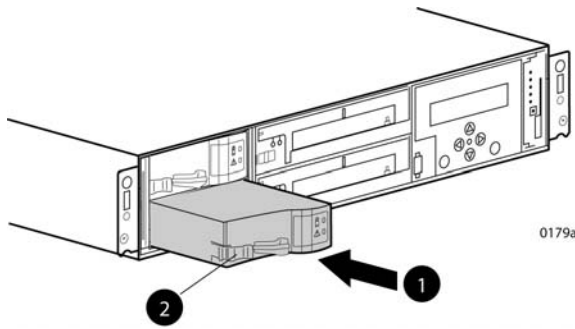

Figure 40 Installing a battery
- Position the battery as high in the slot as possible, then slide the battery into the enclosure (1, Figure 40) until it is fully seated and the mounting latch engages (2).